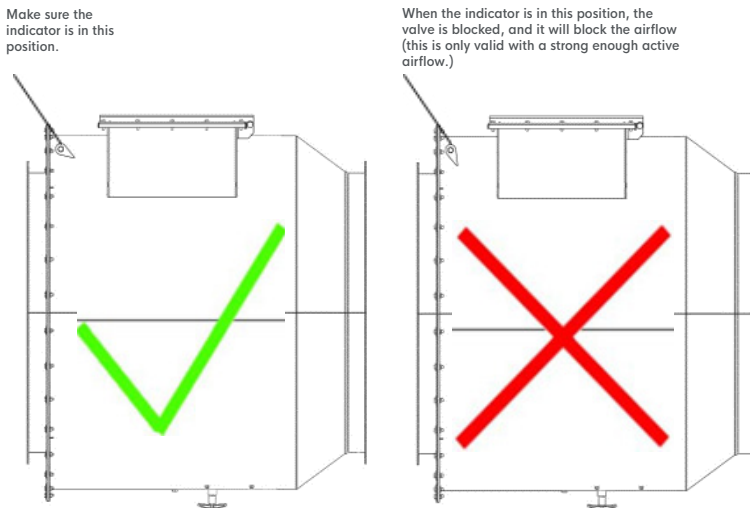

Figure 11. Indicator position
Step 2: Make sure that the indicator is in the correct position (Figure 11).